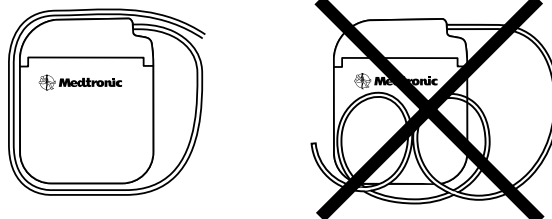

Figure 3. Wrap excess extensions or leads around the perimeter (or behind) the neurostimulator.
- Do not coil excess extensions or leads in front of the neurostimulator. Wrap excess extensions or leads around the perimeter (Figure 3) or behind the neurostimulator to help minimize potential damage during neurostimulator replacement surgery, help minimize potential kinking of the extension or lead, and minimize interference with telemetry.